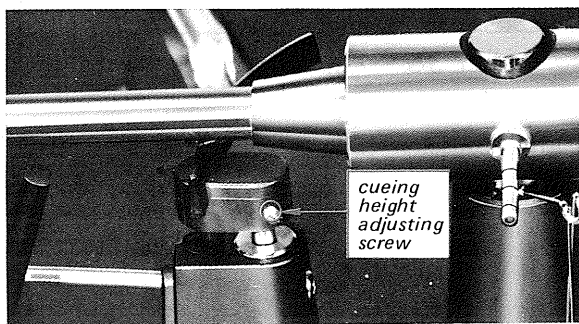
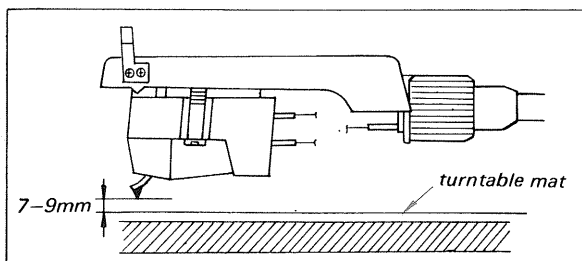

Fig. 3-6. Cueing height adjustment
Fig. 3-7. Clearance between stylus tip and turntable mat.
1. Cueing height can be varied by turning the cueing height adjustment screw shown in Fig. 3-6. The clearance between the stylus tip and the turntable mat should be 7 mm to 9 mm as shown in Fig. 3-7 when the cueing lever is set to "up" position.